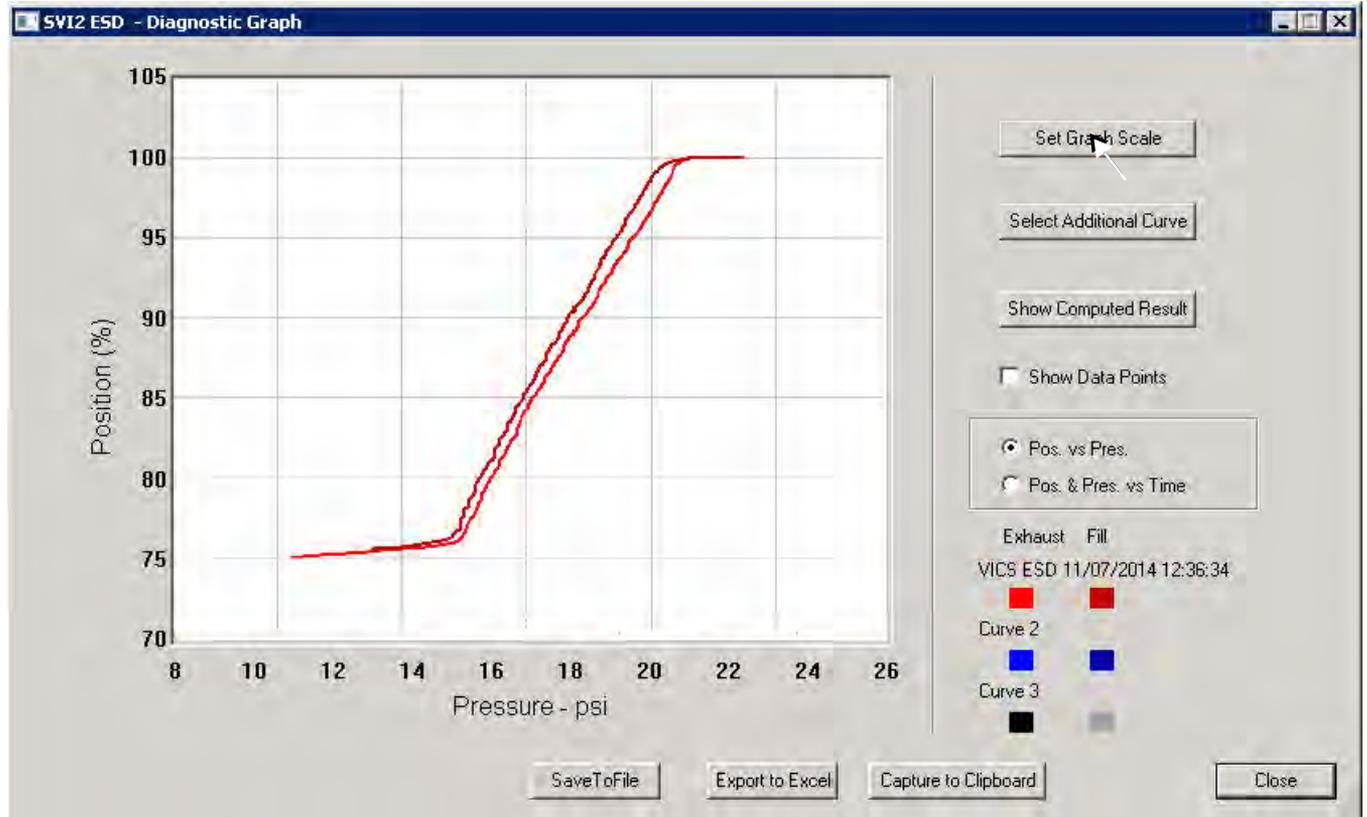

Figure 264 Selecting Set Graph Scale
1. Select **Set Graph Scale** (Figure 264).